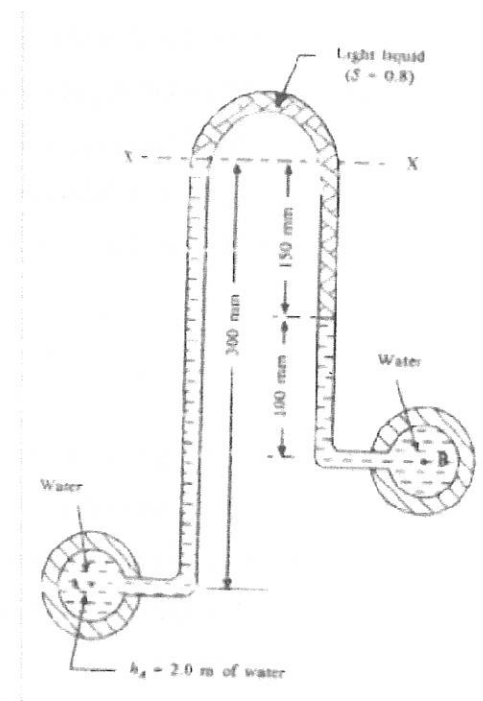

Figure 2
- c) Figure 2 shows an inverted differential manometer having an oil of specific gravity 0.8 connected to two different pipes carrying water. Calculate the pressure in the pipe B if the pressure in pipe A is 2.0 meters of water.